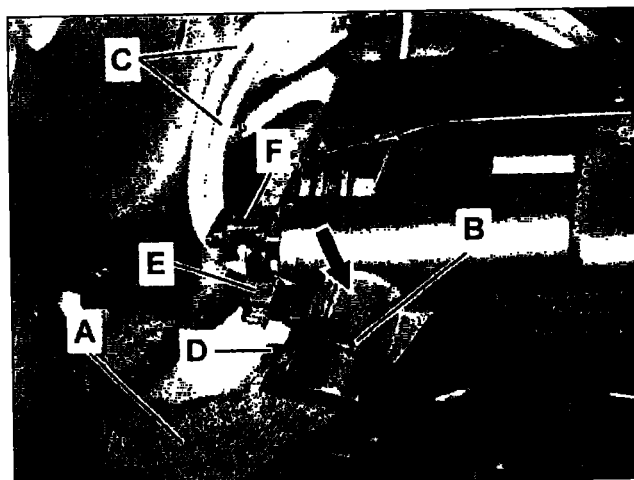

Figure 13
13. Secure SBC wiring harness (A, Figure 13) (excluding ground wires) to the SBC connector cover harness receptacle (arrow) using a new cable tie (B).
- Ensure that the SBC wiring harness (A) is properly routed so that it is free of tension in the SBC connector housing.
- The cable tie "buckle" (D) **must be located at the side of the connector cover harness receptacle (arrow) as depicted.**
14. Secure ground wiring harness (C, Figure 13) to the SBC connector housing receptacle (F) using a new cable tie (E).